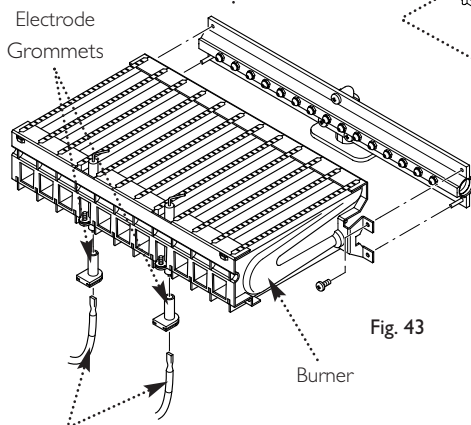

Fig. 43
12. Undo the screws securing the burner to the injector manifold (Instant 105e model only). Draw the burner out of the combustion box, pulling the electrode grommets from the slots in the combustion box lower panel (Fig. 43).
13. Disconnect the electrode leads and grommets from the electrodes. Completely remove the burner (Fig. 43).